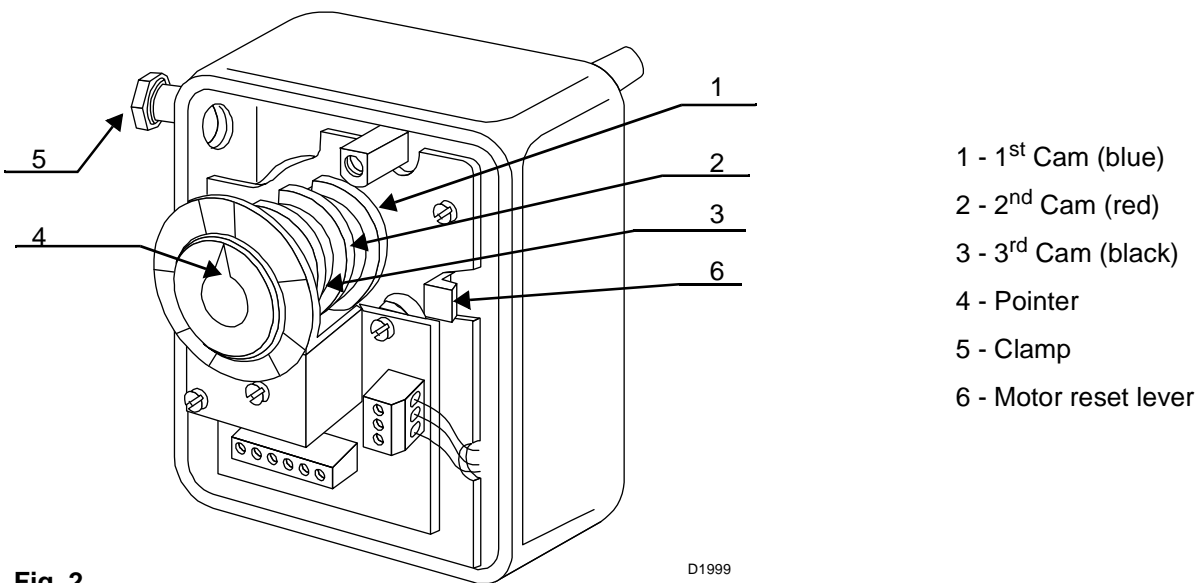

Fig. 2
- Acting on the re-set lever 6) fig.2 disjoin the cam 1) fig.5 from the motor of the servomotor.